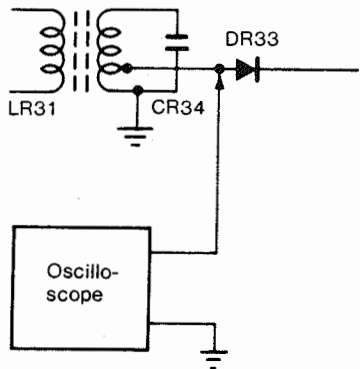

Figure 10. Equipment Connection
2. Connect the oscilloscope to anode of DR33. (See figure 10.)